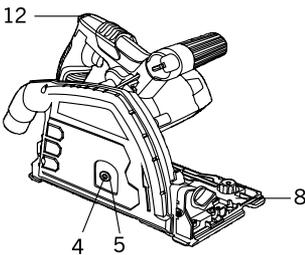
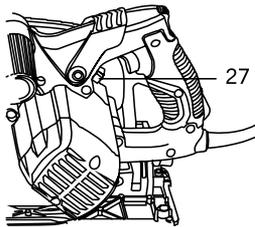

Fig. 1
Fig. 2
2. Push the plunge release (12), rotate the saw head clockwise until the blade securing bolt and the guard window are in same position.(Fig. 1)
3. Insert the 5 mm blade hex key into the blade securing bolt (4).(Fig. 1)
4. Press the spindle locking lever (27) (Fig. 2) and Rotate the blade hex screw counter clockwise and remove both the blade screw and the outer flange (5). (Fig. 1)
NOTE: If the arbor turns with the blade screw, then press on the blade locking lever (27) and slowly rotate the blade screw until the locking lever engages the spindle (Fig. 2).
6. Place the outer flange (5) onto the arbor and thread the blade screw (4) into the arbour. (Fig. 1)
NOTE: Press on the spindle locking lever (27) and slowly rotate the blade screw clockwise until the locking lever engages the spindle. Continue to turn the blade screw clockwise until the blade is firmly tightened onto the spindle. (Fig. 2)